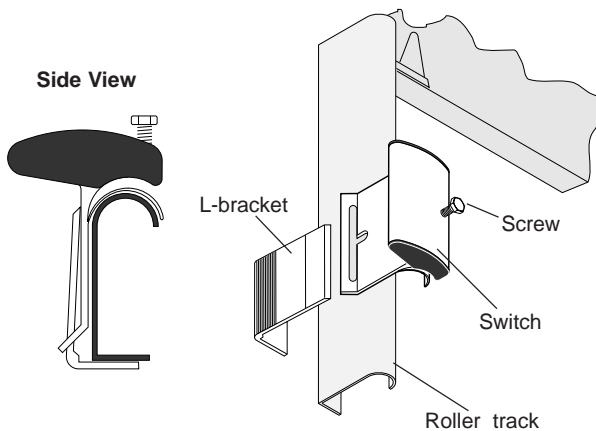

Figure 1 - Mounting the Switch
2. Place the switch over the door track. See Figure 1.